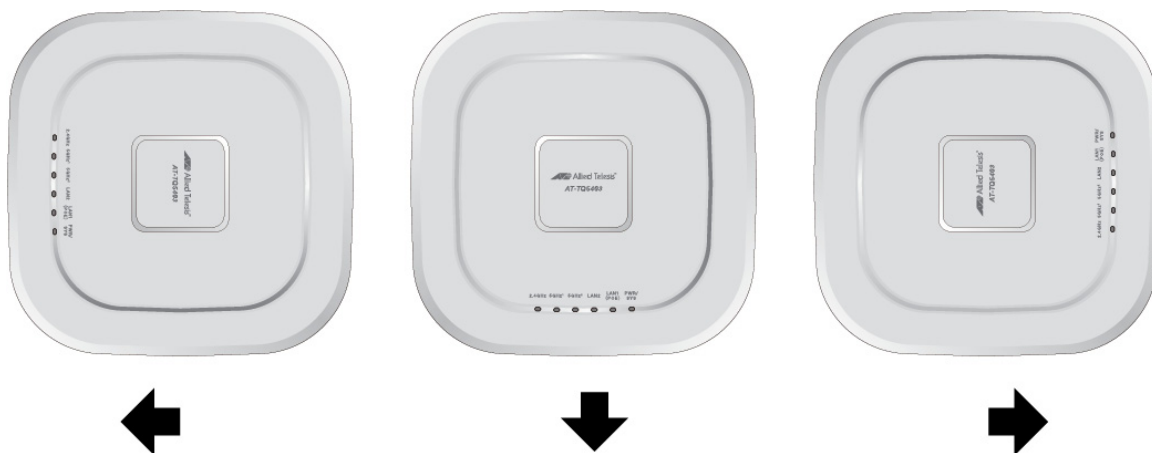

Figure 25. Seating the Access Point on the Mounting Bracket
2. Slide the access point forward until its screws are seated in the bracket keyhole slots and the bracket thumbscrew is aligned with the screw hole on the front panel. Refer to Figure 25 on page 57.